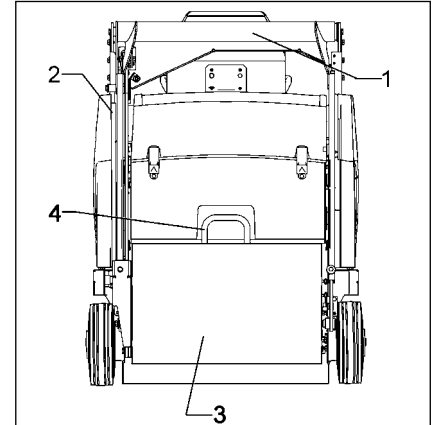

Fig.12
- Dirt hopper (Fig. 12/3) is lifted-out
Should the dirt hopper not be completely emptied after swinging, proceed to manual shaking with the handle (Fig. 12/4).
Refer to chapter 1.3.1 Fig. 12 for position of nameplate.